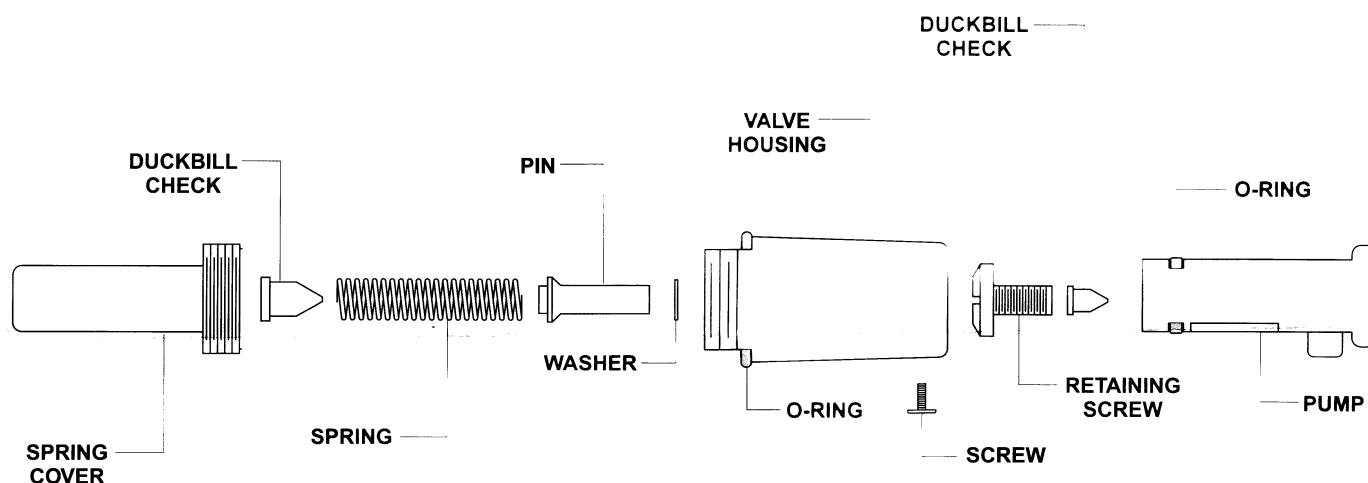

Figure 1
3. If coagulation of soap inside the valve continues and the valve does not operate, give the inner components of the soap valve a thorough cleaning. Follow the steps below and refer to Figure 1 when disassembling and re-assembling the soap valve.